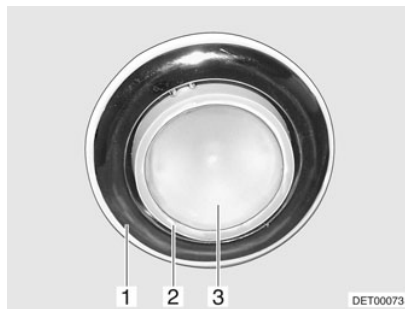

Fig. 97 Recessed halogen light (swivelling)
- Use a suitable tool (e.g. a screwdriver) to lever out and remove the lamp (Fig. 97,1).
- Take the spotlight (Fig. 97,2) out of the lamp.
- Remove cover (Fig. 97,3).